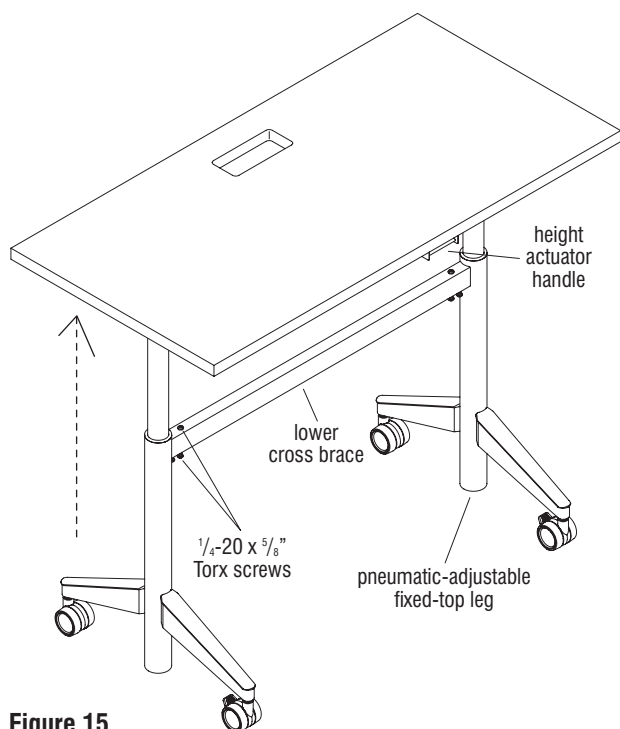

Figure 15
33. Carefully turn the table to the upright position. Locate the height actuator handle at the front, user side of the table and press the actuator handle up, to automatically raise the table height at least four inches (Figure 15). One side at a time, push down on the raised tabletop over each side's pneumatic-adjustable leg (Detail W). If pressing down on each end does not cause the tabletop to lower at one of the ends, no adjustment is needed. If the tabletop lowers on one side with pressure, one or more cables are adjusted too tight, and adjustment is required. If adjustments are required, proceed to step 34 below. If no adjustments are required, proceed to "Actuator Cover Installation" instructions below.